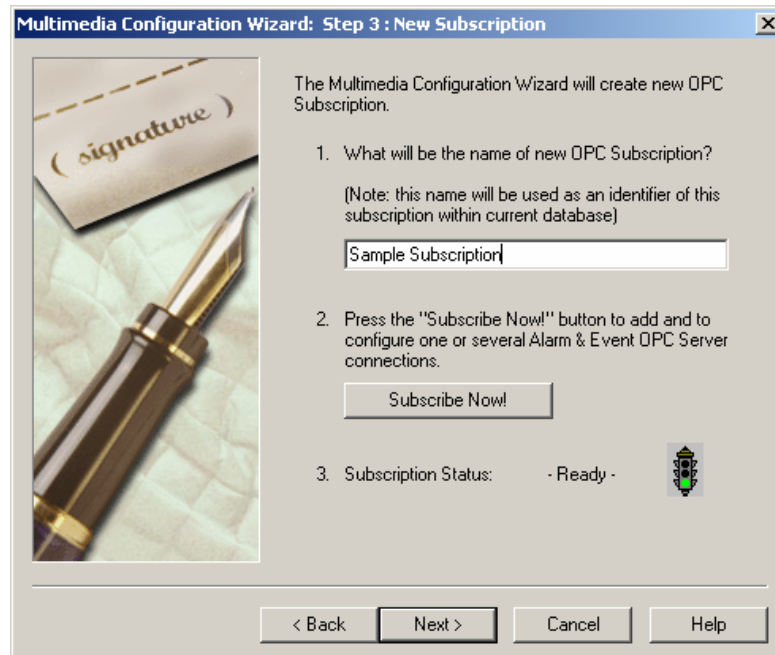

Figure 3.4. Step 3: Creating a New OPC Subscription
3. Enter a name for your new OPC subscription, and click the **Subscribe Now!** button, shown in **Figure 3.4**. Clicking this button will launch the **Subscription Properties** dialog box, which allows you to add and configure one or more OPC Alarm and Event server connections. If you have successfully connected, the traffic light icon on the dialog box will turn green. Once you have a green light, click **Next** to continue to Step 4.